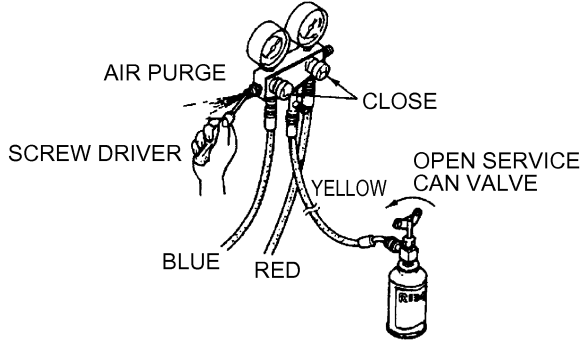

Fig. 25-28 Gas charging operation
(1) Charging from high pressure side (See Fig. 25-28.)
Open the refrigerant can valve. (Be sure the high and low pressure valves of the gauge manifold are closed.) Using a screw driver, push the gas valve on the side service port on the low pressure side of the manifold to release the air in the charging hose with the pressure of the refrigerant. (See Fig. 25-28.) (Stop releasing when a hissing sound is heard.)